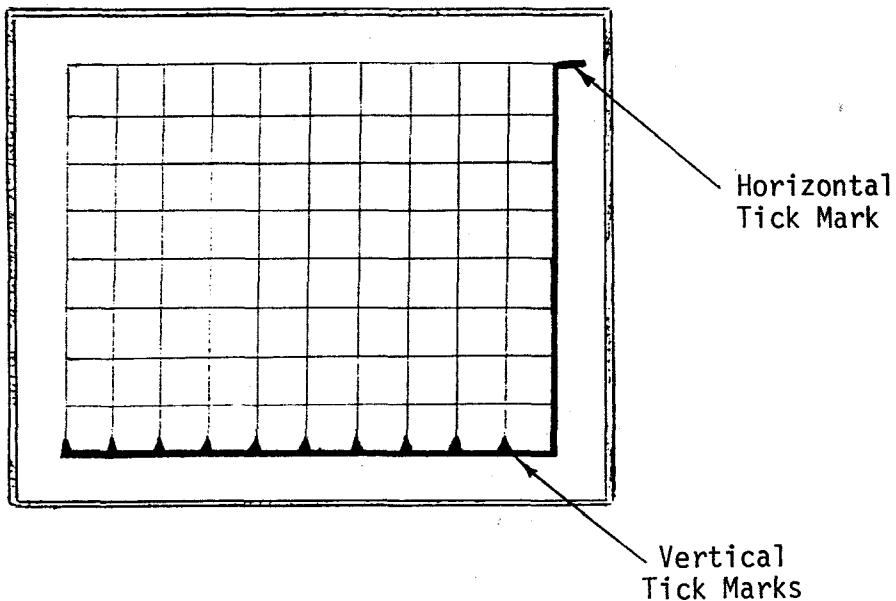

Figure 8
2. Push the CALIBRATION BUTTON, (4), until the CAL LED beside it lights. This indicates that the IE-17A is now in a calibration mode.
4. Adjust the oscilloscope sweep rate (Time/Div) to about .2 msec/div until 10 "tick" marks appear, horizontally lined up across the X-axis of the screen. The vernier sweep adjustment, and the sweep position control are used to fine tune the horizontal spacing of these "tick marks" until they fall exactly on each of the first 10 vertical screen markings (usually 1cm apart), beginning with the first line on the left. See Figure 8.
5. Adjust the coarse and fine input attenuation adjustments on the oscilloscope (volts/div. or volts/cm) to first find and then adjust the heavy horizontal "tick mark." Move it to the right of the far right line on the screen until it rests at the upper right hand corner of the screen grid. A calibrated oscilloscope screen is demonstrated in Figure 8.